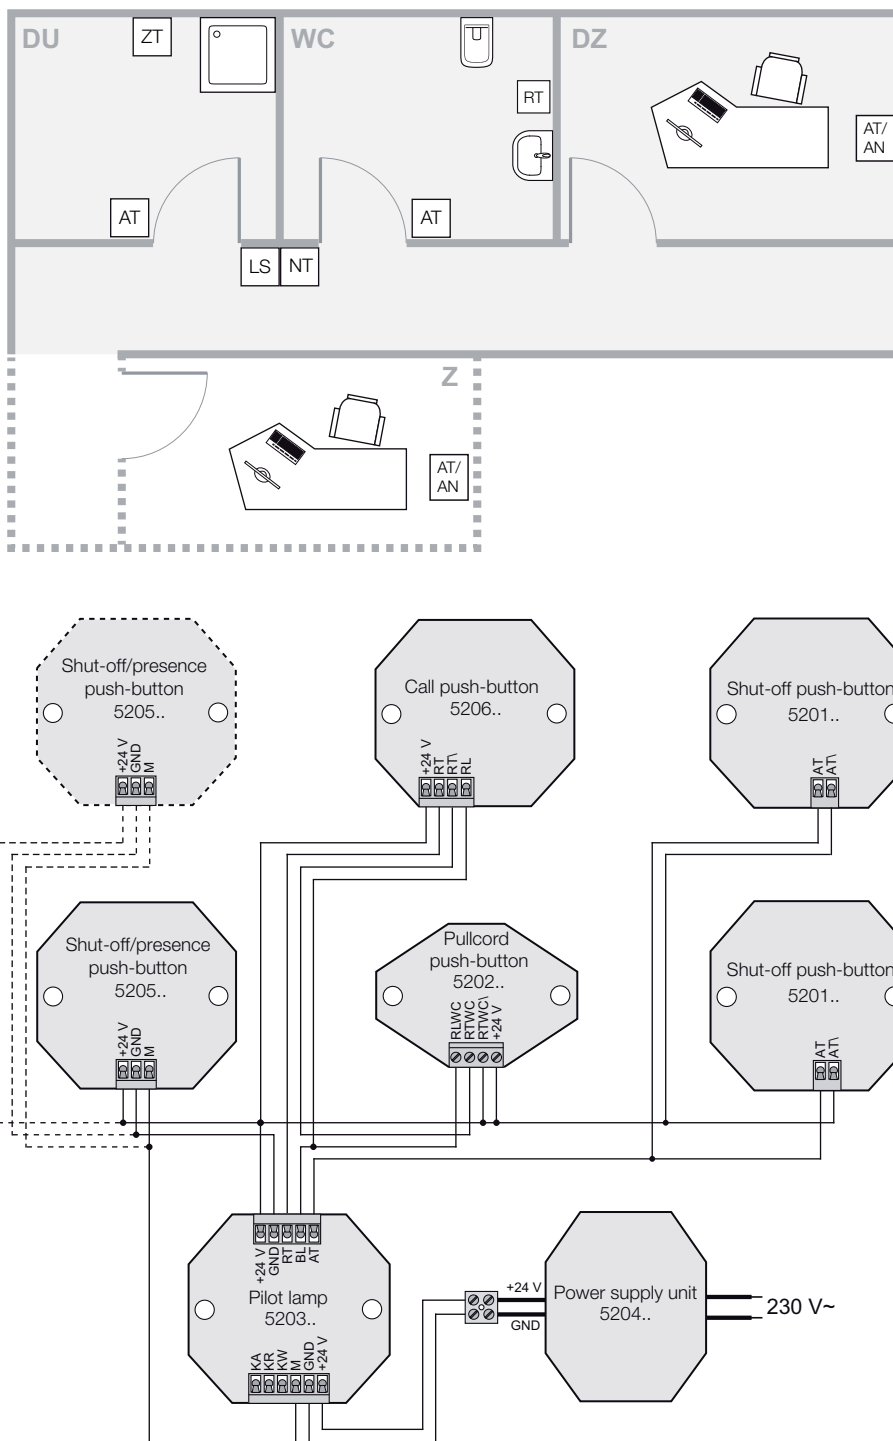

Figure 8: Installation with additional call, shut-off push-button and call forwarding to service room
- Connect additional equipment according to wiring diagram (Figure 8). Several pullcord/call push-buttons are wired in series, several shut-off push-buttons are wired in parallel. If an emergency signal should not only be displayed in the hallway but also in a more remote central unit (Z) or service room (DZ), one or more shut-off/presence push-buttons can also be connected in addition.
- Connect one or more (Figure 8, displayed in dotted lines) shut-off/presence push-buttons according to wiring diagram.